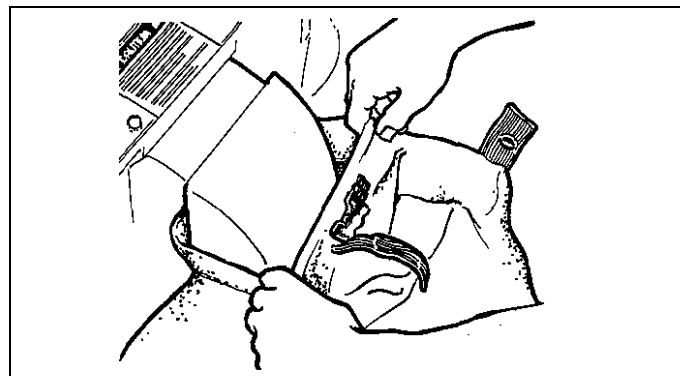

Figure 10. Pull Discharge Bag Off Discharge Tube
2. Pull the bag off and away from the discharge tube (Figure 10), and using both hands, grip the bag securely at the front and rear to balance the weight as you lift it.